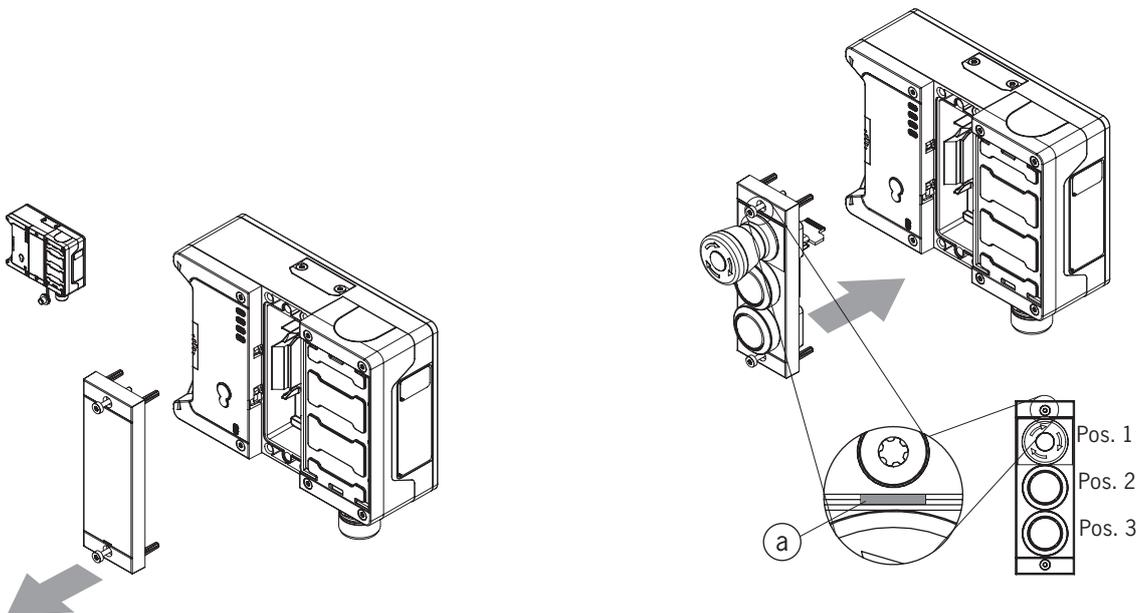

Fig. 11: Mounting submodule
- › Pay attention to the alignment of the submodule. See marking (a) in *Fig. 11: Mounting submodule*. Submodules can also be installed rotated by 180°. The marking (a) always indicates the first position to be equipped. This is the emergency stop S1 position in the example below.